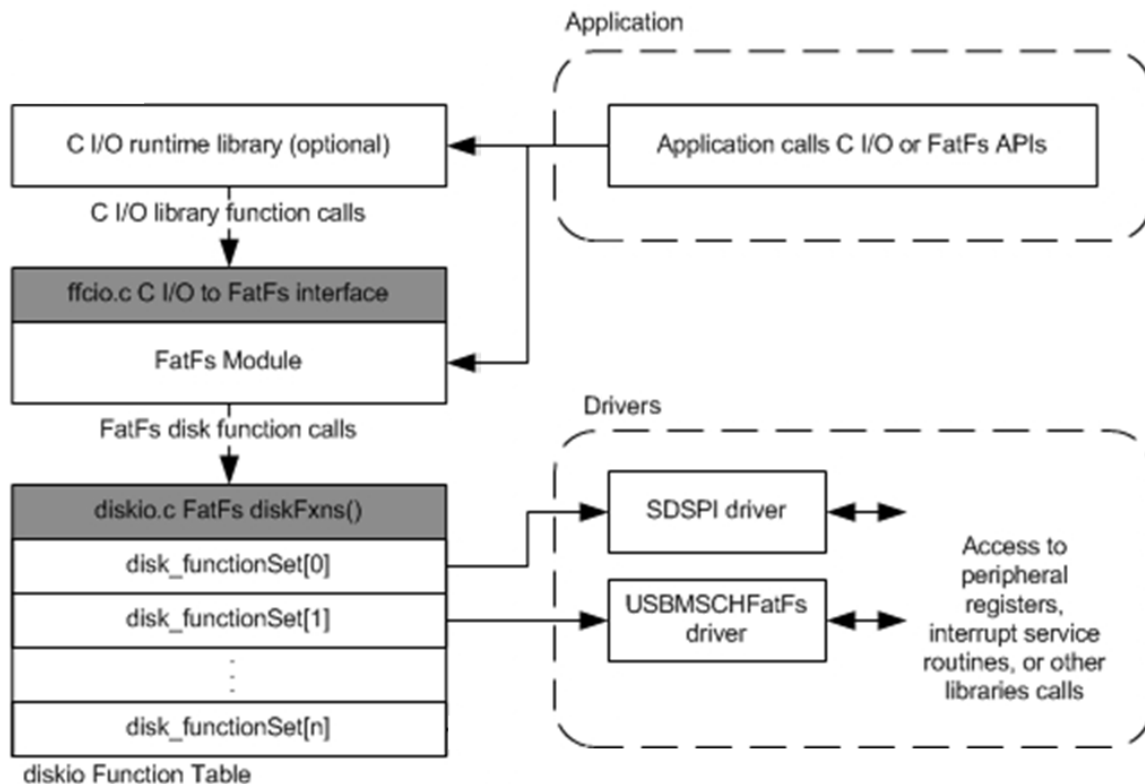

Figure 8-1 FatFs data flow
- **FatFs drivers.** The last layer in Figure 8-1 is the FatFs drivers. TI-RTOS comes with pre-built FatFs drivers that plug into the FatFS module. A FatFs driver has no knowledge of the internal workings of FatFs. Its only task is to perform disk-specific operations such as initialization, reading, and writing. The FatFs driver performs read and write operations in data block units called sectors (commonly 512 bytes). Details about writing data to the device are left to the particular FatFs driver, which typically accesses a peripheral's hardware registers or uses a driver library.